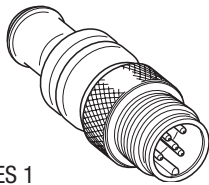
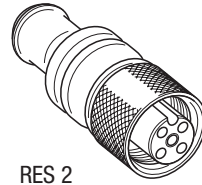

Fig. 10 RES 1
Fig. 11 RES 2
- If two or more system components are connected in a CAN bus system, provide the first and the last device with a terminating resistor of 120 Ω, **Fig. 10, Fig. 11**